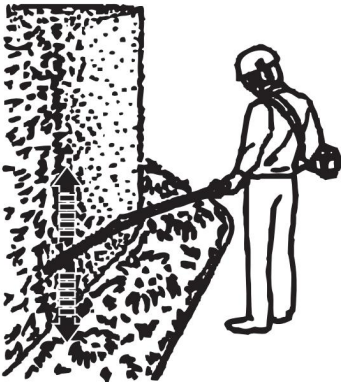

Fig. 59
- 4. Cut both sides from the bottom cutting upwards to the top. This will prevent any of the cuttings falling into the path of the area still to be cut (Fig. 59).